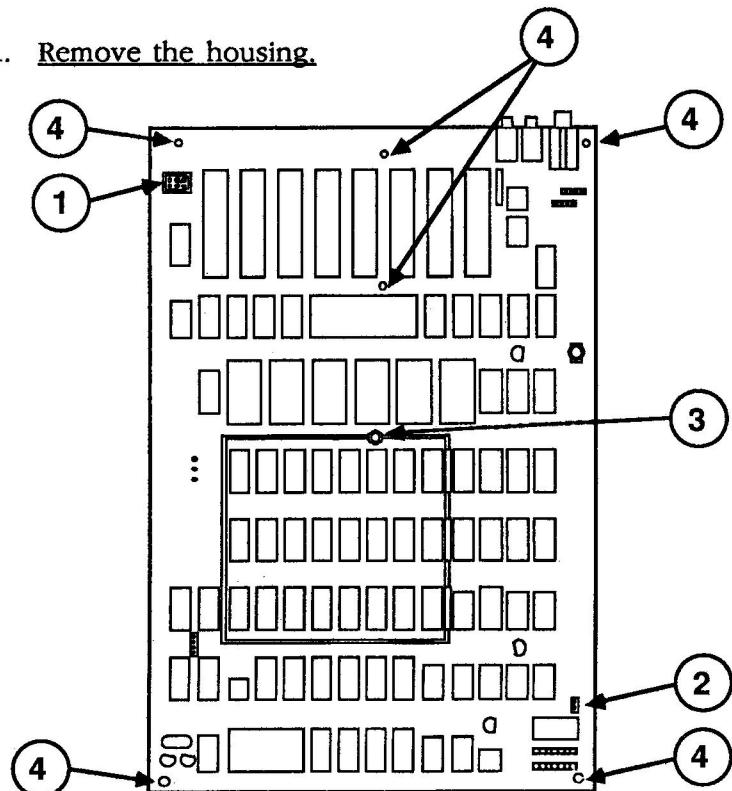

FIGURE 3
2. Pinch the front and rear sides of the power supply connector (Figure 3, #1) and pull the connector from its mating socket.
3. Unplug the speaker connector (Figure 3, #2).
4. Using the nutdriver, remove the nut and lockwasher (Figure 3, #3) in the middle of the motherboard.
5. Using the needlenose pliers, push in on the flanges of the six standoffs (Figure 3, #4).